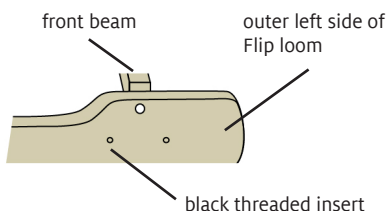

FIGURE 1: CHECK FOR BLACK THREADED INSERT
1. Flip looms built before late February 2010 do not have threaded inserts in the loom sides (Figure 1). You can buy a retrofit kit on our website; install the inserts before putting the loom on the stand.